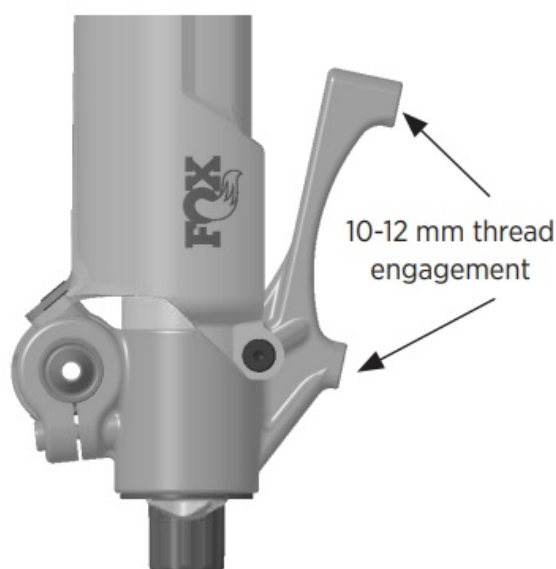

Figure 3: Disc brake caliper mounting holes
**WARNING:** The disc brake caliper mounting bolts must have 10-12 mm of thread engagement with the fork (Figure 3). Use a torque wrench to tighten the caliper mounting bolts to the disc brake manufacturer's specification, but do not exceed 10.2 N. m (90 in-lb). Improper installation can lead to brake failure, resulting in a loss of control of the bicycle and SEVERE INJURY OR DEATH.